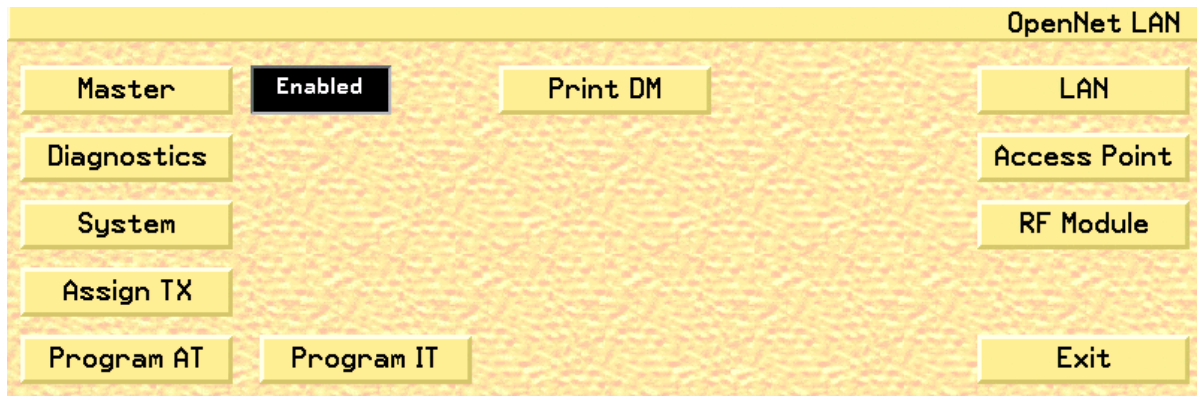

Fig. 60. OpenNet LAN Screen
1. Click the **Master** button to toggle between Enabled and Disabled (see fig. 60 on page 101).